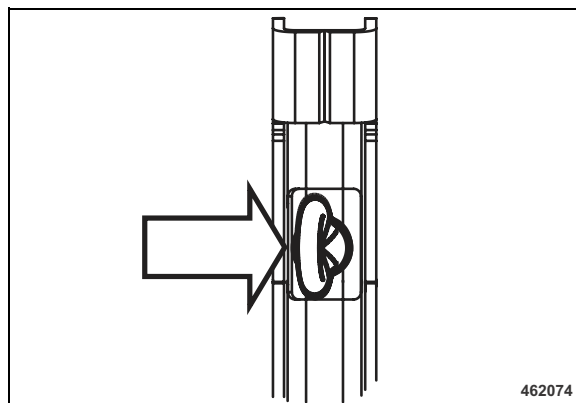

Fig. 111
- To fold up the foldable ROPS align the clamping plates on both sides vertically (Fig. 111).